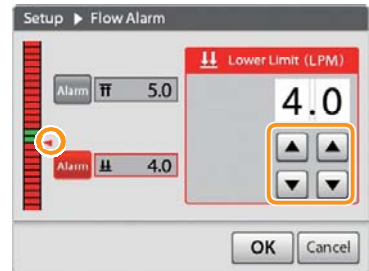

Figure 3-5
5. Tap ▲ or ▼ to input the lower limit value you want to set. (Figure 3-5)